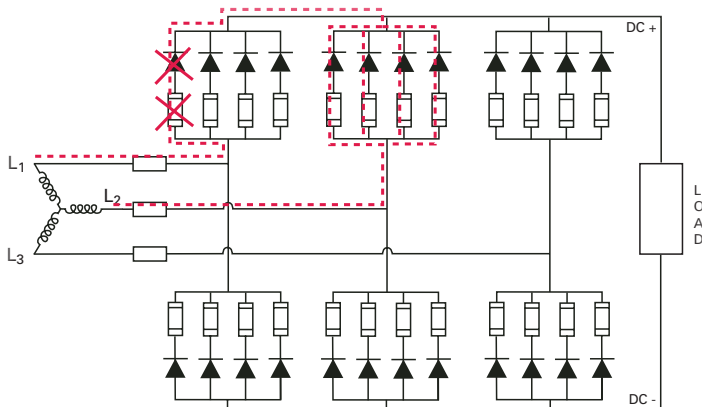

Figure G1. Internal fault.
- **Internal faults** — a short-circuit of an individual rectifier cell. Failure to open in the circuit of a silicon power rectifier is rare. However, this type of short-circuit can be ascertained by the use of detection circuitry (see Figures G1 and G2).
It's important to note that in designing high power, high current rectifier equipment, continuity of supply in the event of an internal fault is often a desired feature. The equipment must be designed to provide the required output under all load conditions with one or more non-operating semiconductor devices according to the manufacturer's specification. This can be done when each arm consists of having multiple rectifier cells (see Figure G1).